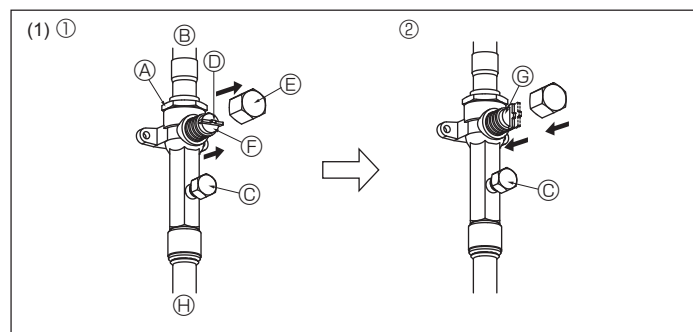
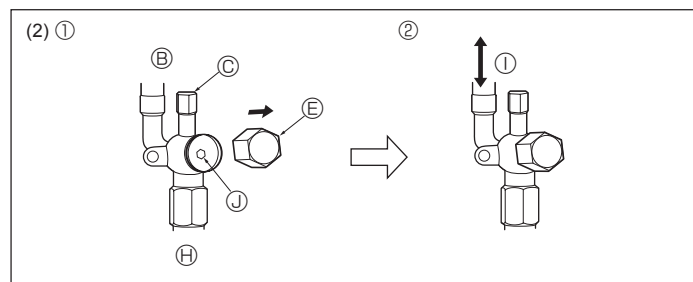

Fig. 4-10
Fig. 4-11
(1) Gas side (Fig. 4-10)
① Remove the cap, pull the handle toward you and rotate 1/4 turn in a counterclockwise direction to open.
② Make sure that the stop valve is open completely, push in the handle and rotate the cap back to its original position.
(2) Liquid side (Fig. 4-11)
① Remove the cap and turn the valve rod counterclockwise as far as it will go with the use of a 4 mm [3/16"] hexagonal wrench. Stop turning when it hits the stopper.
② Make sure that the stop valve is open completely and rotate the cap back to its original position.